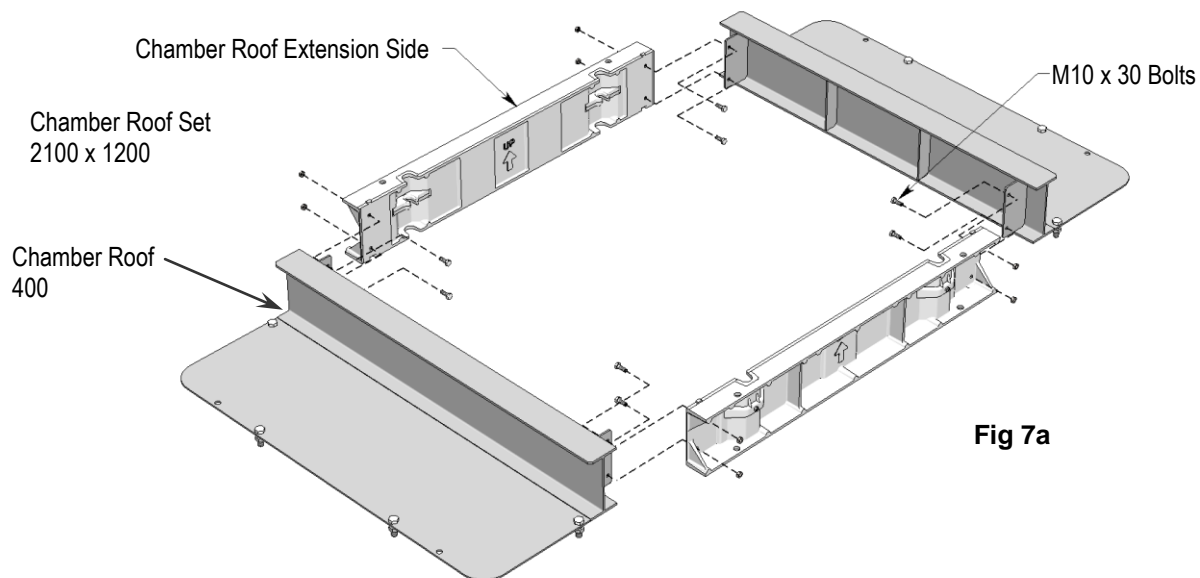

Fig 7a
7. Assemble **chamber roof extension side** and **chamber roof 400** as per Fig 7a using the 8 – M10 x 30 bolts and washers supplied. Place on top of chamber flange. See arrows for right way up.